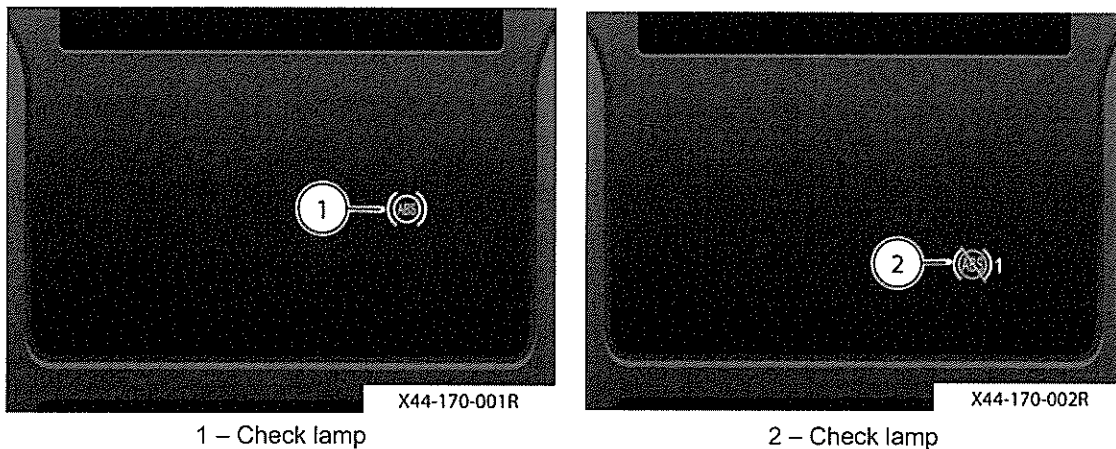

Fig 3 ABS function check
18 Refer to Fig 3. The check lamp (1) remains lit when the ABS is not ready for operation. A message is also shown on the driver's display. The text on the display indicates whether the vehicle ABS or trailer ABS is affected; refer to Chapter 1-2.
21 Refer to Fig 3. The ABS is activated automatically when the ignition is switched on. The check lamps (1) and (2) come on, and the text 'TRAILER ABS' is shown on the driver's display.
24 Refer to Fig 3. The ABS is activated automatically when the ignition is switched on. The yellow check lamp (2) stays on when the trailer has no ABS.